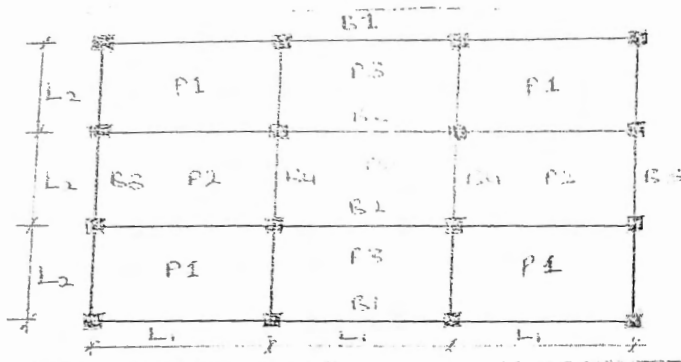

Figure Q2, 3 & 4
2. For the structural plan in figure Q2, 3, & 4 estimate the ultimate load on beam B2 and column C4 at the ground floor. Given: slab thickness = 200mm, imposed load = 5kN/m², partition load = 2.0kN/mm², finishes = 1.5kN/mm², roof load = 2.0kN/m², L₁ = 6m, L₂ = 4m, number of storey = 5. Take partition load and finishing load as part of the dead load of the structure. (25 marks).
3. Design beam B2 in Fig. Q2, 3& 4 for tension and compression reinforcements and check for deflection. Given: Usage of building – office for general use; slab thickness – 150 mm; Finishes – 1.0 kN/m²; partition load – 2.0 kN/m²; beam dimension – 250 mm x 500mm; f_{cu} = 25 N/mm²; f_y = 460 N/mm²; L₁ = 7 m; L₂ = 5 m; cover – 20mm; diameter of reinforcement – 20mm. (25 marks).
4. Design panel P1 in Fig. Q2. 3 & 4 for tension reinforcement and check for deflection. Given: Usage of building – gymnasium; slab thickness – 150 mm; Finishes – 1.0 kN/m²; partition load – 1.5 kN/m²; f_{cu} = 25 N/mm²; f_y = 460 N/mm²; L₁ = 6m; L₂ = 4m; cover – 20mm; diameter of reinforcement – 12 mm. (25marks).